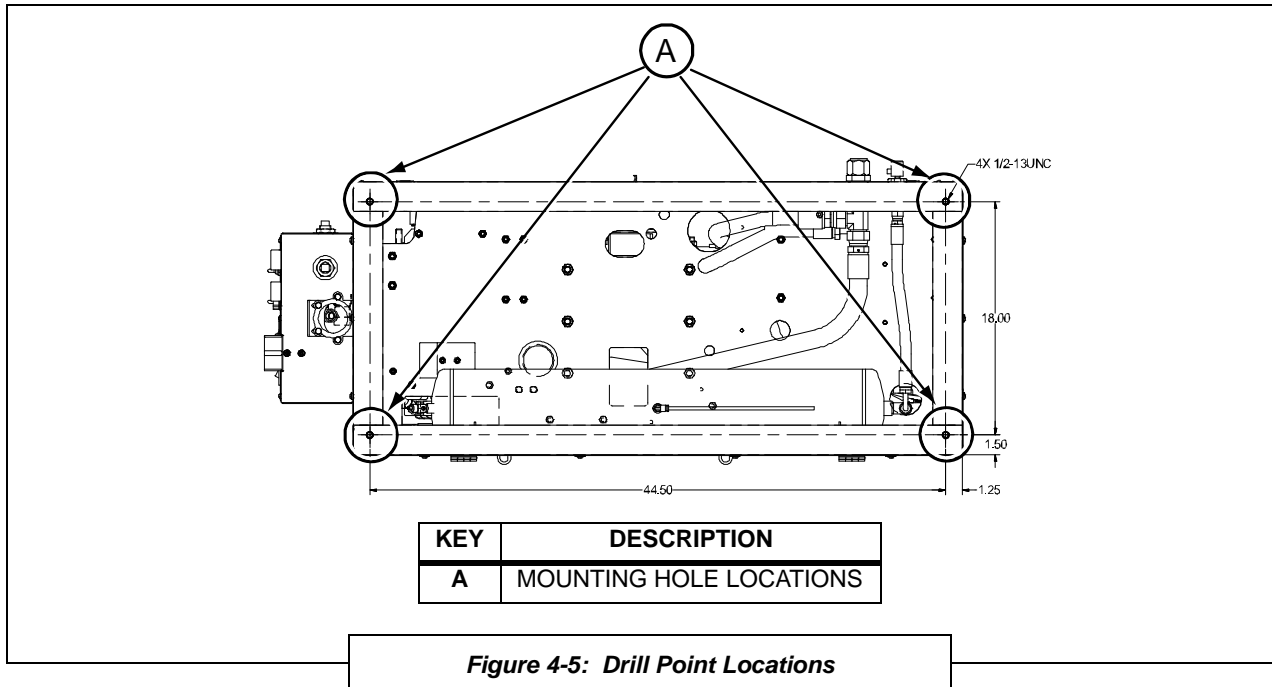

Figure 4-5: Drill Point Locations
2. Refer to **Figure 4-5**. Using a scribing tool or pen, place a mark through all of both mounting holes [A] on the service body's mounting surface. There will be a *minimum* of four (4) holes that will need to be indicated (two to three for each bracket).
3. Ensure that all proper machine clearances will be maintained. Then temporarily move the machine so that the service body floor can be drilled. Drill four (4) 9/16" mounting holes in the service body floor at the scribed markings made in step #4.